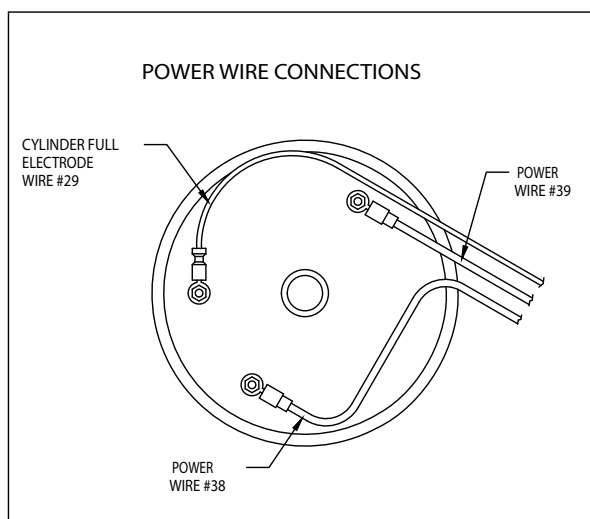

Figure 11B
2. Turn off power to the unit at the external disconnect. Disconnect electrode power wires (#38 & #39) and cylinder full electrode wire (#29) from the tank. These connections are 1/4" quick connects. (See Figure 11B, 11C, & 11D)
8. Reconnect electrode power wires (#38 & #39) and cylinder full electrode, wire (#29). Make sure that all electrical connections are securely tightened. (See Figure 11B, 11C, & 11D)